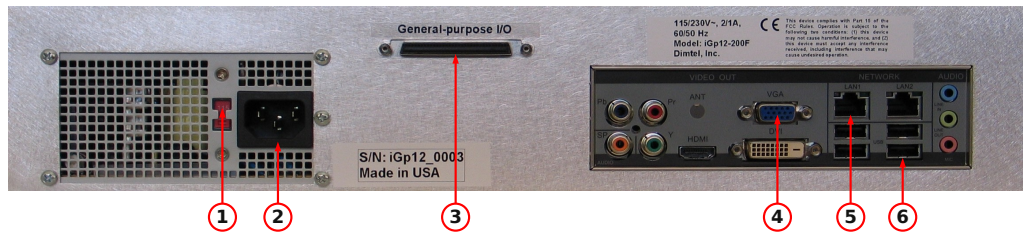

Figure 3: Rear panel features
**WARNING: Before connecting power to the unit make sure the voltage selection switch (Fig. 3, item 1) is in the correct position (115 or 230 V).**
1. Configure voltage selection switch (Fig. 3, item 1). Mains supply requirements for the iGp12-5120F are listed in Table 10;
7. Connect a USB keyboard (Fig. 3, item 4);
8. Connect a video monitor (Fig. 3, item 5);
Setup program is included in the IOC for configuring the important features of the iGp12-5120F. The program can be executed locally or remotely. For local execution one must first connect a keyboard (Fig. 3, item 4) and a video monitor (Fig. 3, item 5) to the system. For remote setup, use `ssh` after system bootup to establish connection. In both setup methods the user must login as `root` (initial password is supplied with the system). If the newly received iGp12-5120F must be configured remotely (when, for example, a keyboard or a monitor is not available), such configuration can be performed using a dedicated network. Set up a network consisting of the iGp12-5120F, a network hub or a switch, and a remote computer. The iGp12-5120F is delivered with the following network configuration: